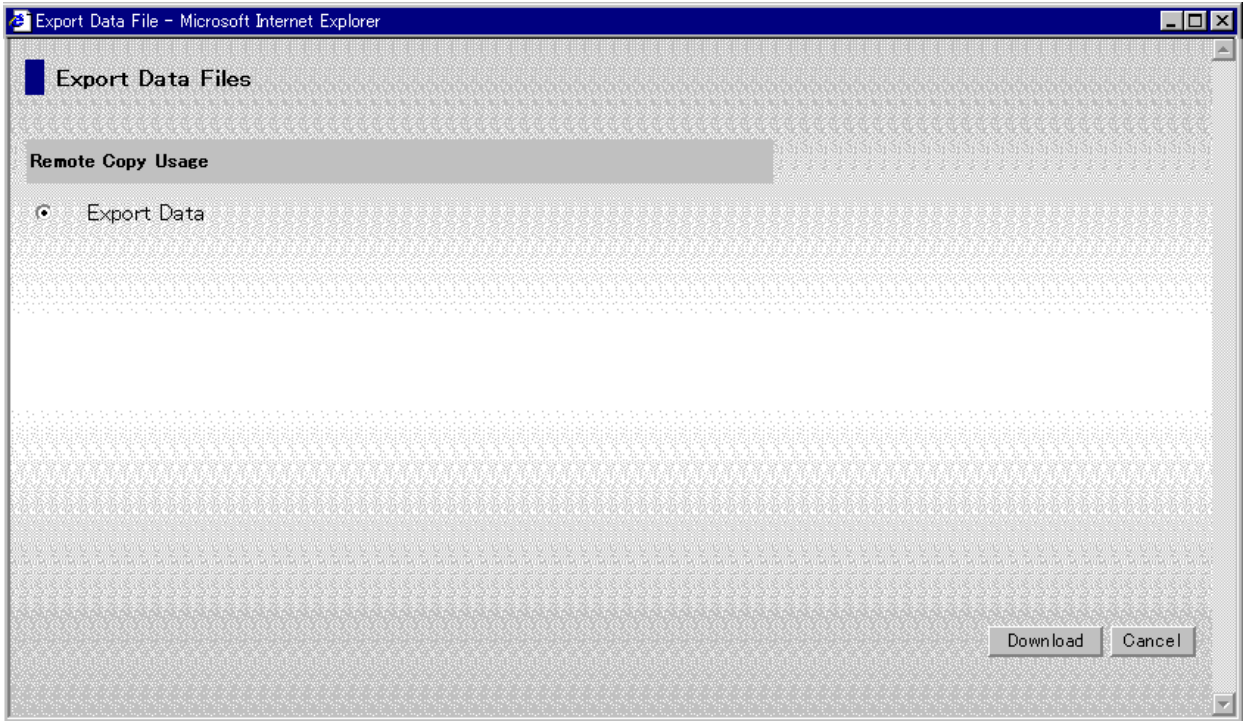
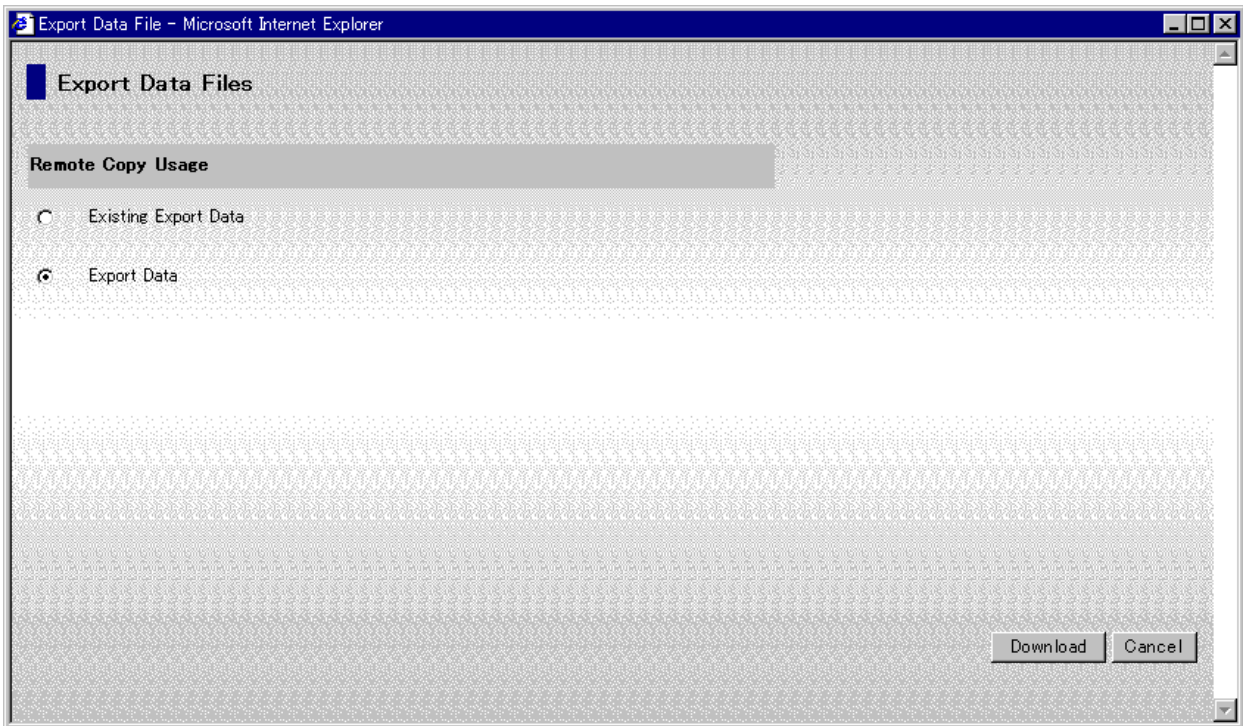

Figure 4.34 Export Data Files – Remote Copy Usage (first export operation shown)
Figure 4.35 Export Data Files – Remote Copy Usage
4. Click **Next>>** to open the Remote Copy Usage panel (see Figure 4.34, Figure 4.35).
- When you are downloading the usage monitor file for the first time, select **Export Data** (see Figure 4.34), and then select **Download**.
- After you have downloaded the usage monitor file at least once, select **Existing Export Data** (see Figure 4.35), and then select **Download**.